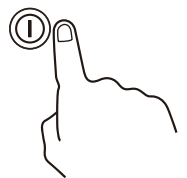

fig.1
- Press the ON/OFF button (fig. 1) to switch on the appliance.